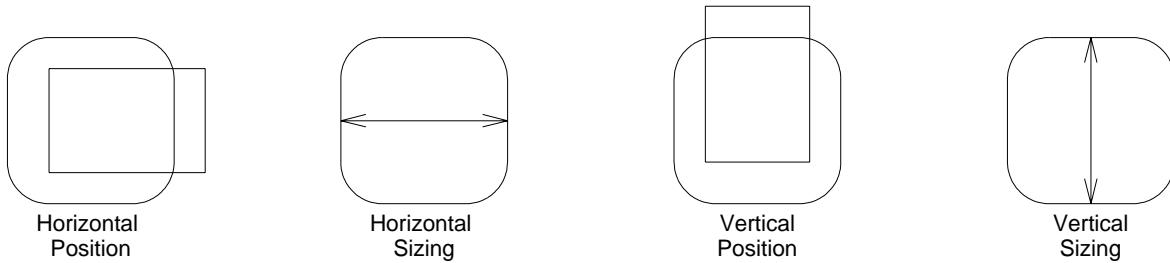

Figure 2, Monitor Adjustment Symbols
48. Using the **Select “+”** or **“-”** buttons on the front of the monitor, highlight **Horizontal Position** symbol, as shown in figure 2 below.